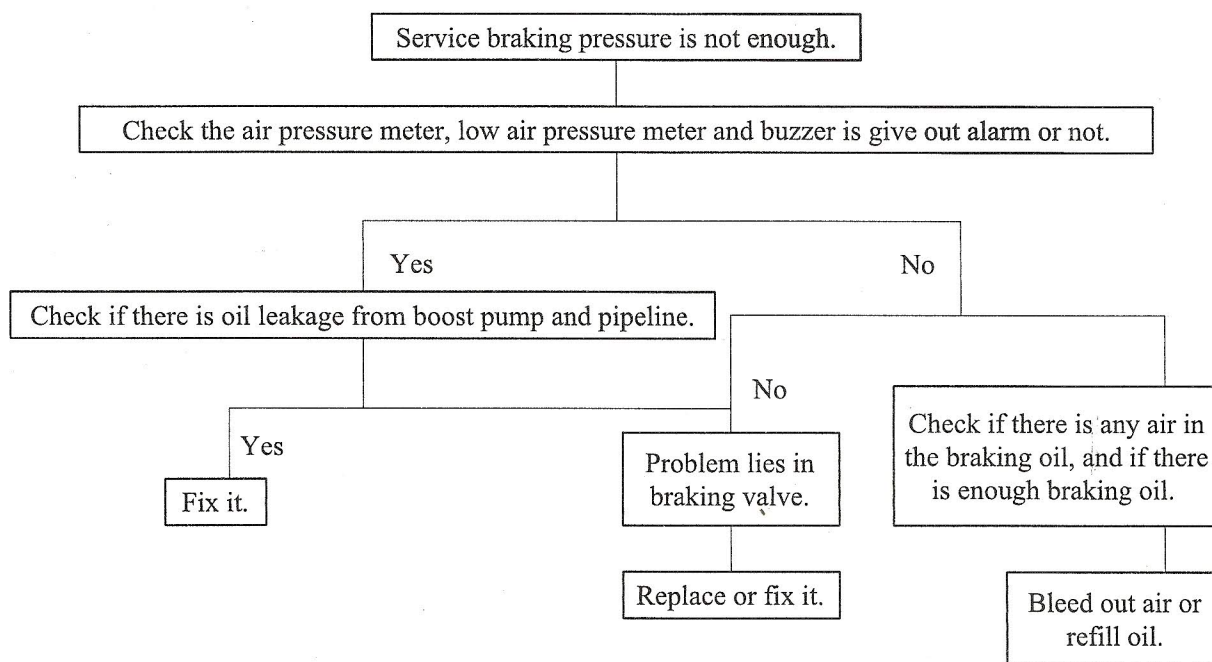

Fig. 06-06 Diagnosis process chart for the problem of insufficient braking pressure
- The pressure of service braking system is not enough (See Fig. 06-06).
- The machine doesn't make steering when steering-wheel is operated (See Fig. 06-06).